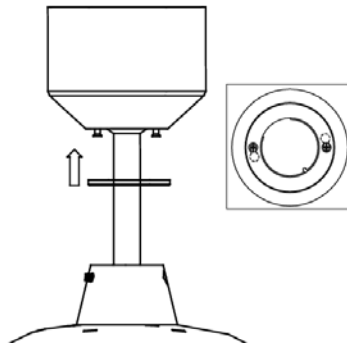

Fig. 6
4. Cover the mounting bracket with the canopy cover. Ensure all electrical wirings is tucked inside the canopy and that it is not damaged during this step, and secure with screws. **Fig. 6**
Finally attach the canopy cover to the canopy screws by turning it clockwise. **Fig. 6**